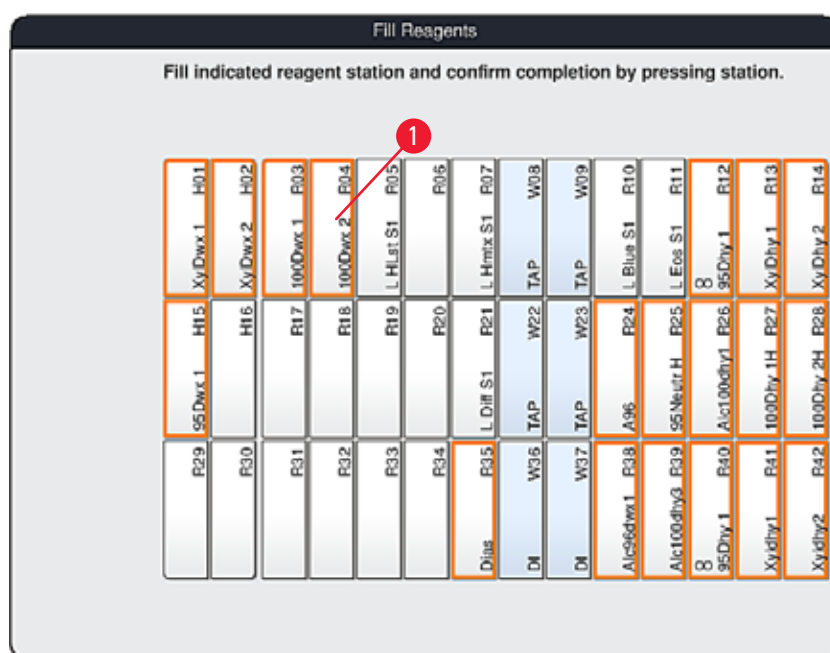

Fig. 56
2. In the new "Fill reagents" (→ "Fig. 56") window, the stations to be filled are marked in orange (→ "Fig. 56-1").
Only user-defined and added reagents of Leica staining programs are displayed with an orange marking (→ "Fig. 56"). The reagents from the Leica reagent kit are subsequently fed in (→ p. 79 – Filling the Leica reagent kit reagents).